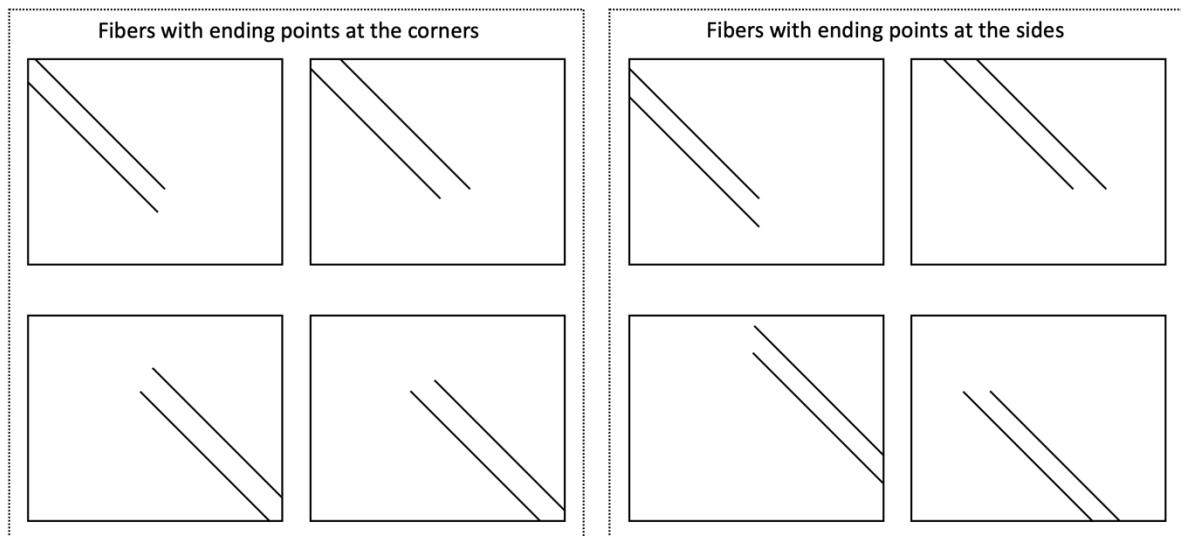

Fig. 3. Different ending points of the fibers.
- l) **nPixelsCorner**: how many pixels should be eliminated from the fiber if endings are in the corners (check Fig. 3.)
- m) **nPixelsSide**: how many pixels should be eliminated from the fiber if endings are not in the corners (check Fig. 3.)